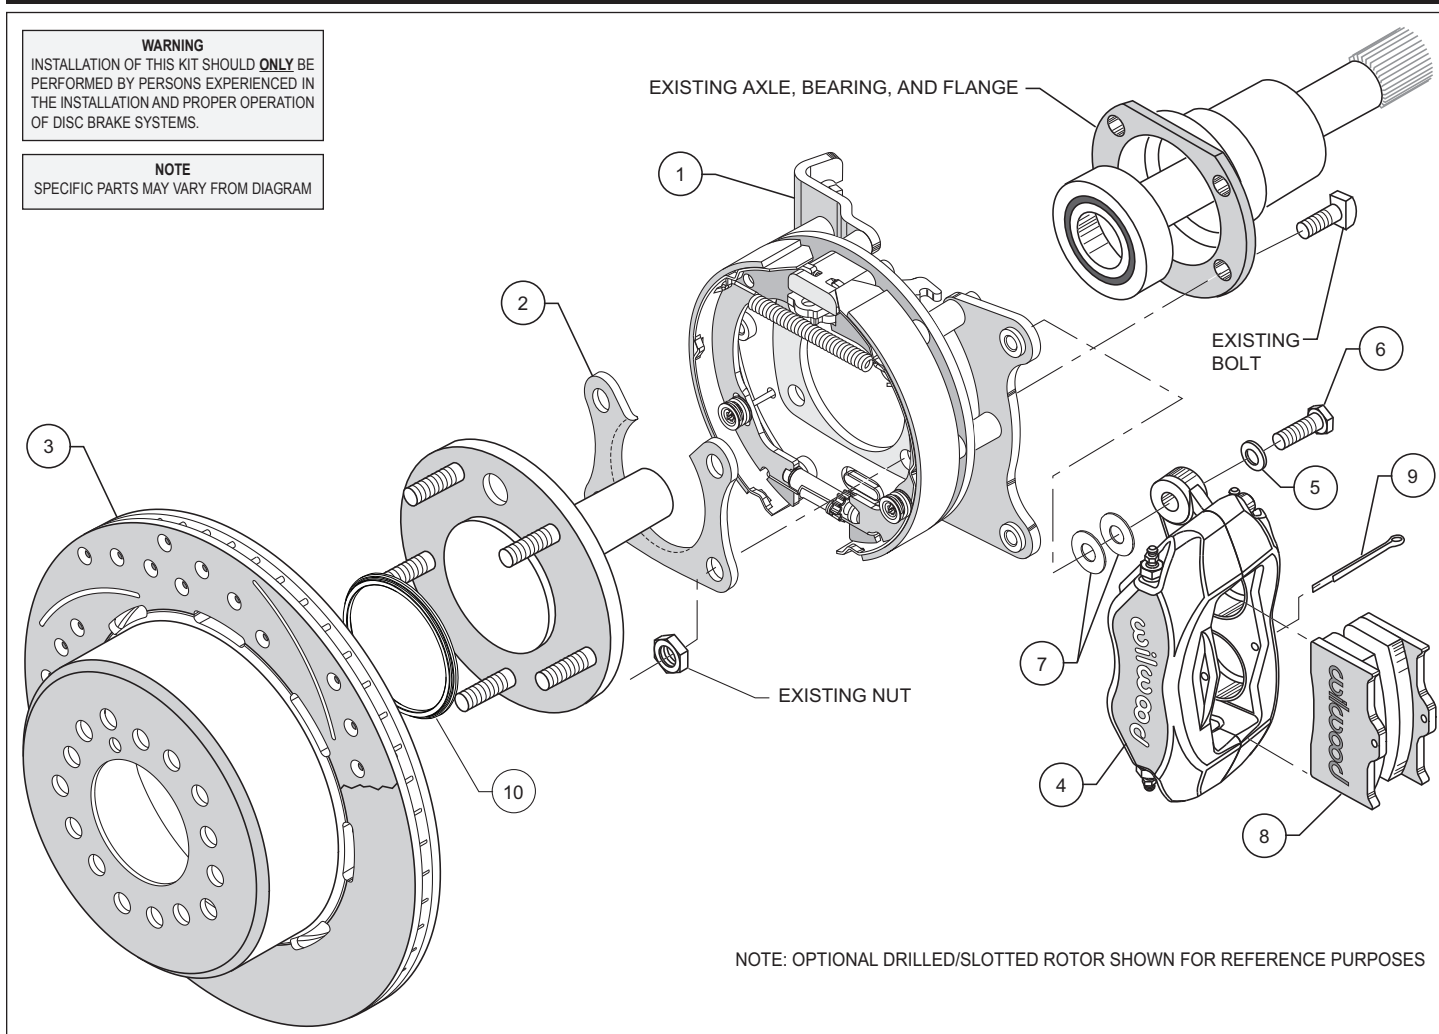

Figure 1. Typical Installation Configuration
- A. **Full Circle Retainers** require the utilization of a qualified machine shop to press off the axle bearing and OEM retainer. Then have machine shop install new retainer (2), supplied with bracket kit with lip facing toward bearing, reference Figures 1, 4 and 5 (we suggest that you install a new bearing at this time, not supplied with kit).
- B. **"U" Retainers** require the removal of the OEM retainer by cutting or grinding a notch in the retainer to facilitate removal. Once OEM retainer is removed, install new retainer (2) supplied with bracket kit with the "U" opening facing up and the lip facing toward bearing, reference Figures 1, 4 and 5.